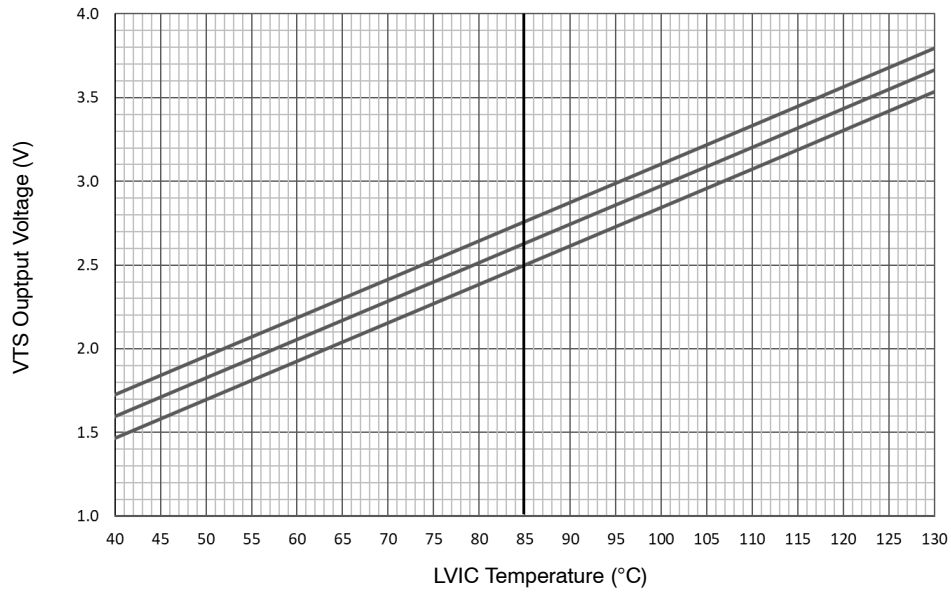
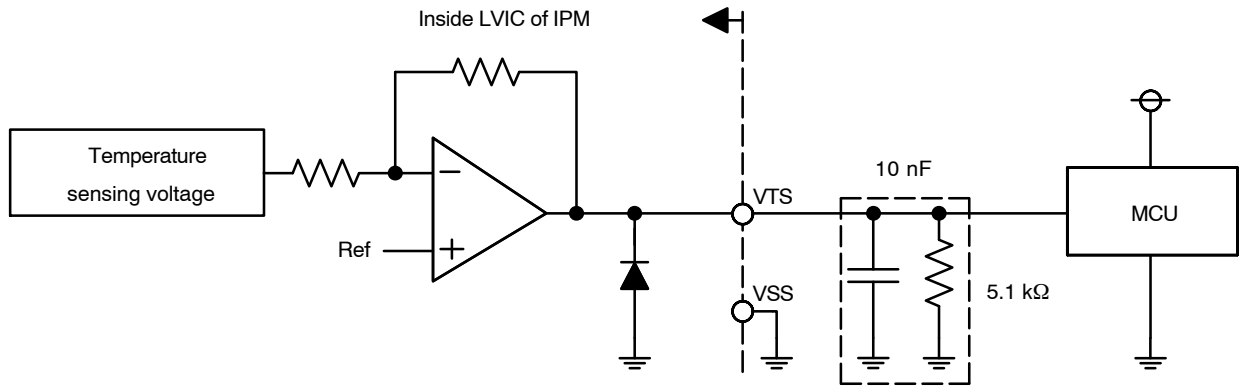

Figure 4. Temperature of LVIC versus VOT Characteristics
Figure 5. Internal Block Diagram and Interface Circuit of VTS
5. TLVIC is the temperature of LVIC itself. VTS is only for sensing temperature of LVIC and cannot shutdown IGBTs automatically. The relationship between VTS voltage output and LVIC temperature is described in Figure 4. It is recommended to add 5.1k Ω pull down resistor between VTS and VSS (Signal Ground) as described in Figure 5 for linear output characteristics at low temperature. To reduce noise, 10 nF cap is recommended as well. Refer to the application note for usage of VTS.
To avoid malfunction, the wiring of each input should be as short as possible (less than 2–3 cm). Each capacitor should be mounted as close to the pins of the product as possible. VFO output is open-drain type. This signal line should be pulled up to the positive side of the MCU or control power supply with a resistor that makes IFO up to 1 mA. Please refer to Figure 5.